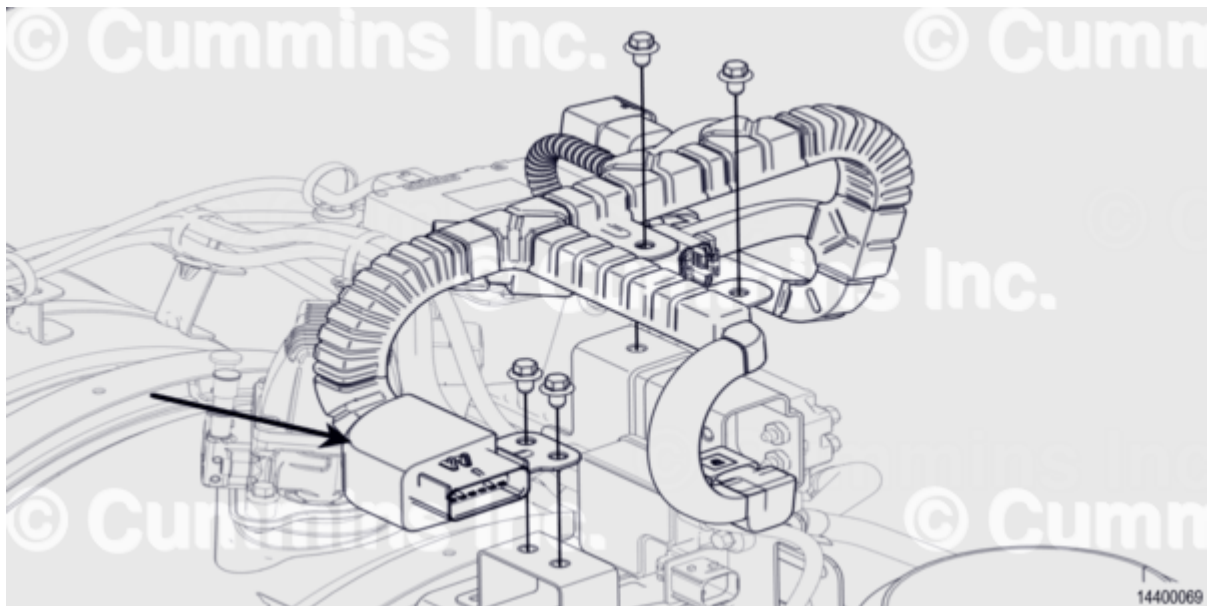

Figure 8, Aftertreatment Interface Harness
2. Disconnect the aftertreatment interface harness. See Figure 8.